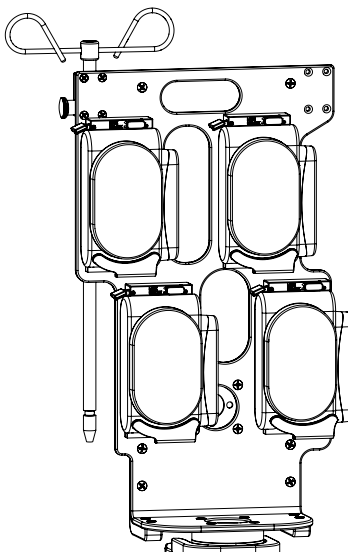

Figure 5: Infusion pumps installed in the Bracket Pro Serie 92 - FL4
7. Repeat steps 3 to 6 until all pumps have been installed (Figure 5).